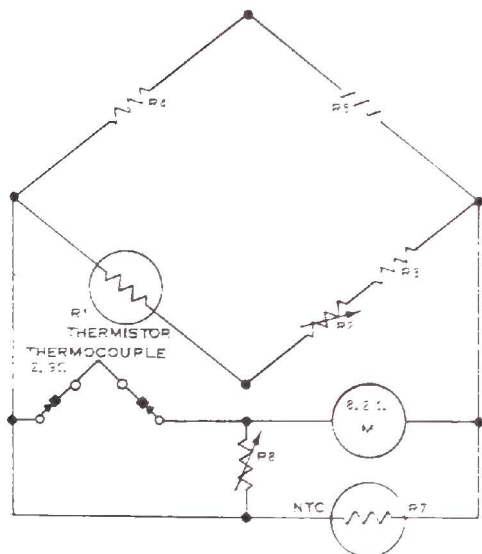

Figure 5-1. Simplified Diagram, With No Compensation
5.2.1 Figure 5-1 is a simplified diagram of the meter circuit when the compensating switch is "OFF." When no voltage is generated in the thermocouple lead, the pointer remains at its zero indication point of 80°F because there is no current flow.